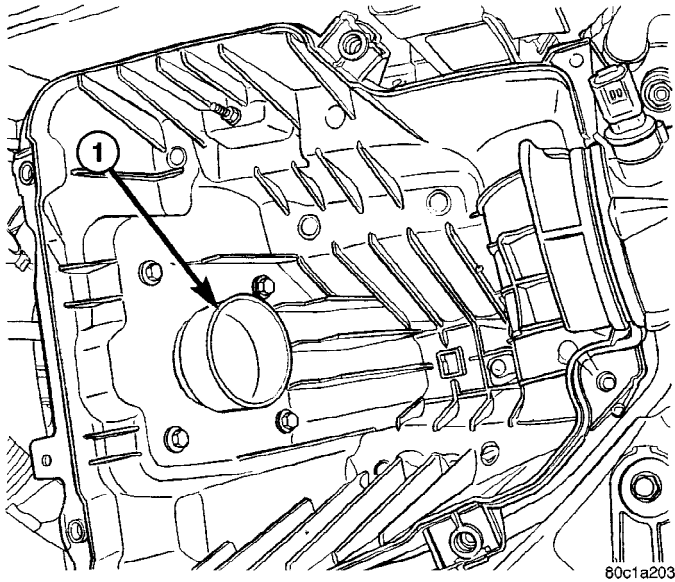

Fig. 11 Element Locator
(1) Install the air filter element on locator (Fig. 11) and then make sure that the element is locked in at the lip in the air cleaner box (Fig. 11).
- (2) Install the air cleaner housing lid.
- (3) Clip the 2 latches for the air cleaner housing lid (Fig. 11).